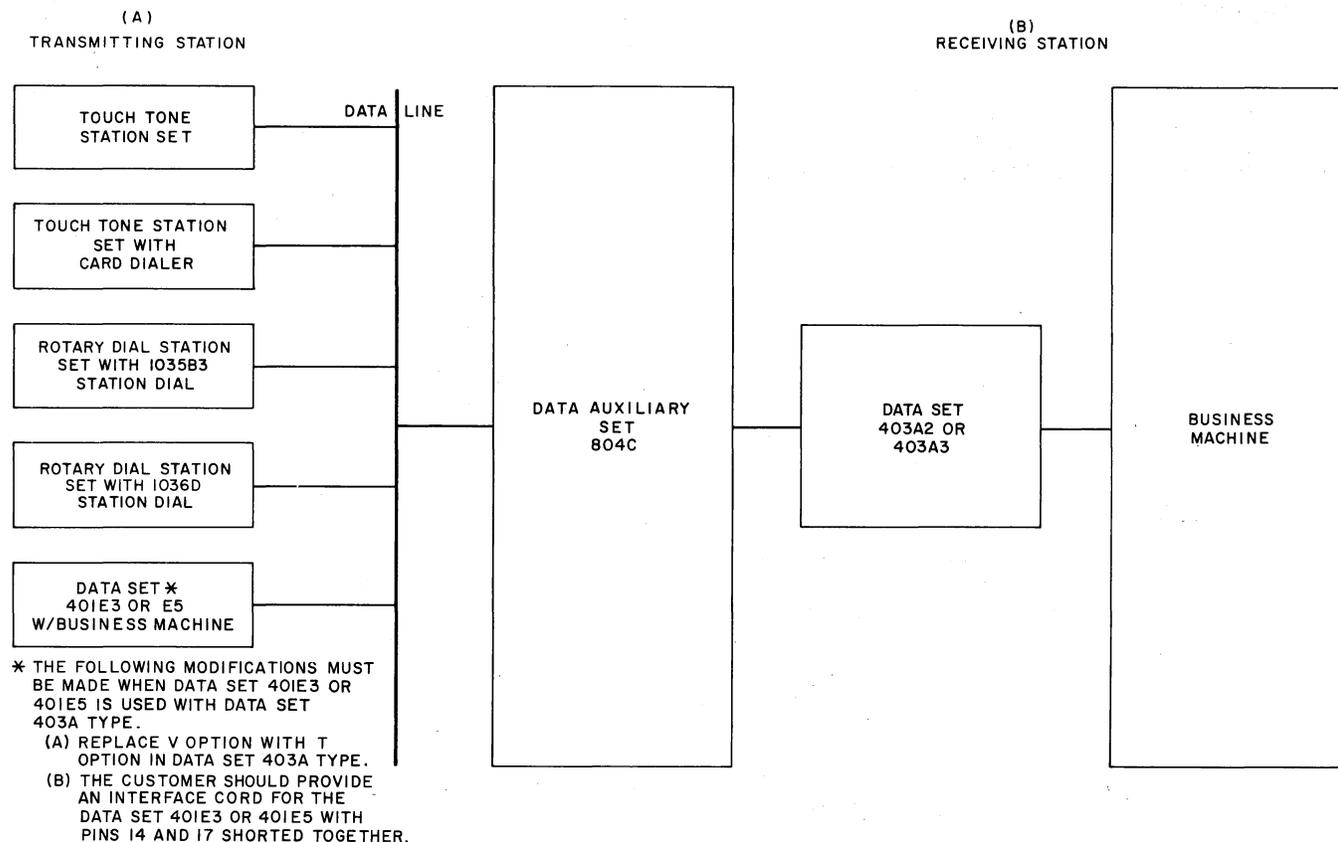

Fig. 7—Unattended or Attended Operation of Data Set 403A2 or 403A3, Single Data Set Installation Typical
3.02 Data Set operation for individual data set installations being used in an unattended mode is described in Table C using Fig. 7.
3.03 Data Set operation for individual data set installations being used in the attended mode is described in Table D using Fig. 7.